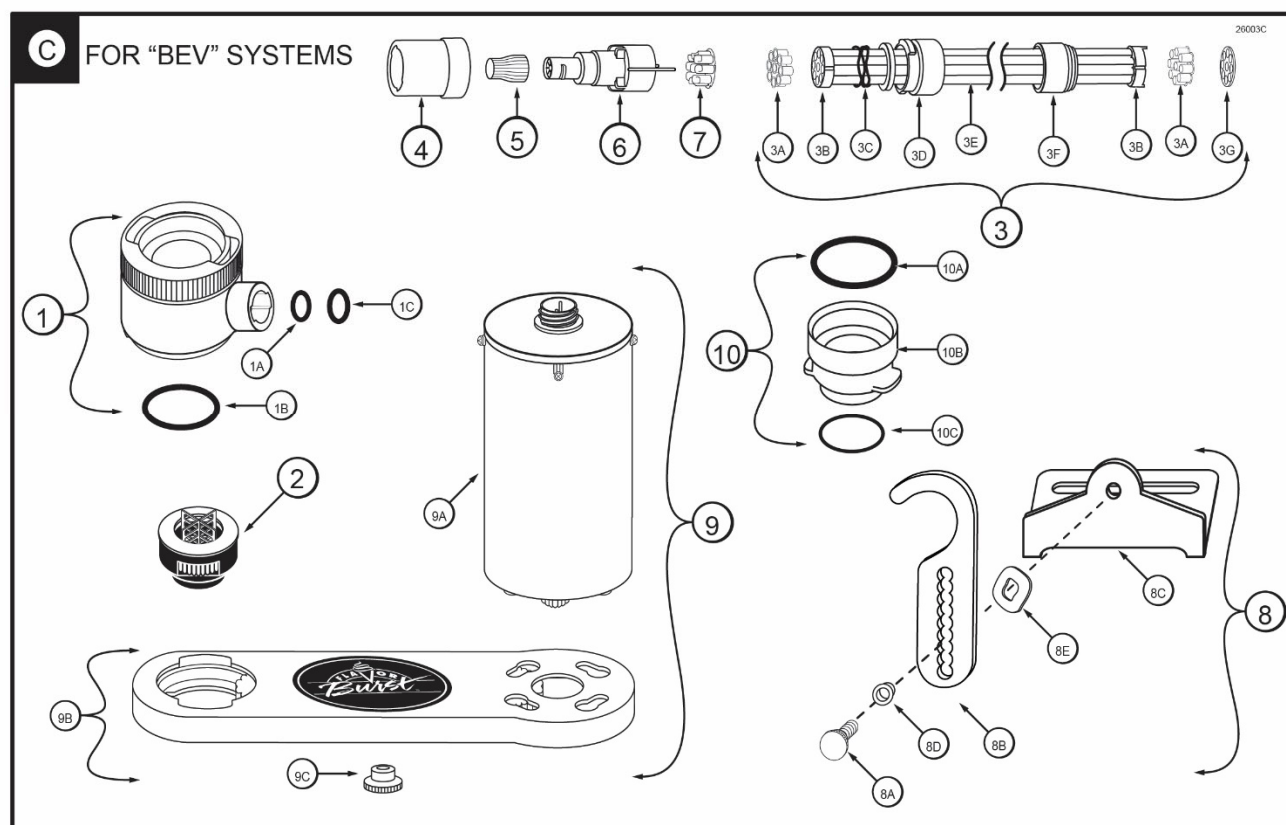

Figure 4C
**“BEV” Blending Assembly and Related Parts (See Figure 4C)**